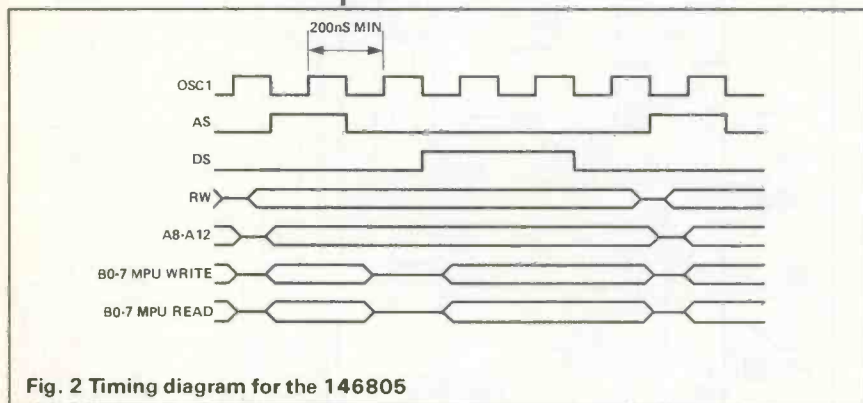

Fig. 2 Timing diagram for the 146805
Five clock periods are used per bus cycle, the relative timings for which are given in Fig. 2. To save pins, address lines 0-7 are multiplexed with the data bus. The falling edge of the address strobe (AS) latches the address in the earlier part of the cycle leaving the latter part of the cycle for data.